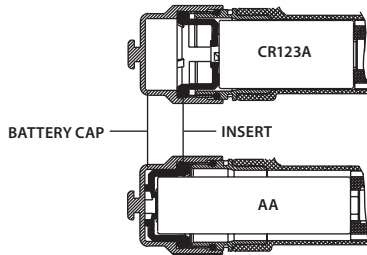

FIGURE 3-2. POSITIONS OF THE ADAPTER IN THE BATTERY CAP
1. Unscrew the battery cap (A) and check the position of the adapter (B). See Figure 3-2 for the correct positioning of the threaded adapter, which changes depending on the battery being installed.
3. Install the battery (C) into the battery compartment (D). Follow the battery symbol (E).
4. Replace the battery cap (A).